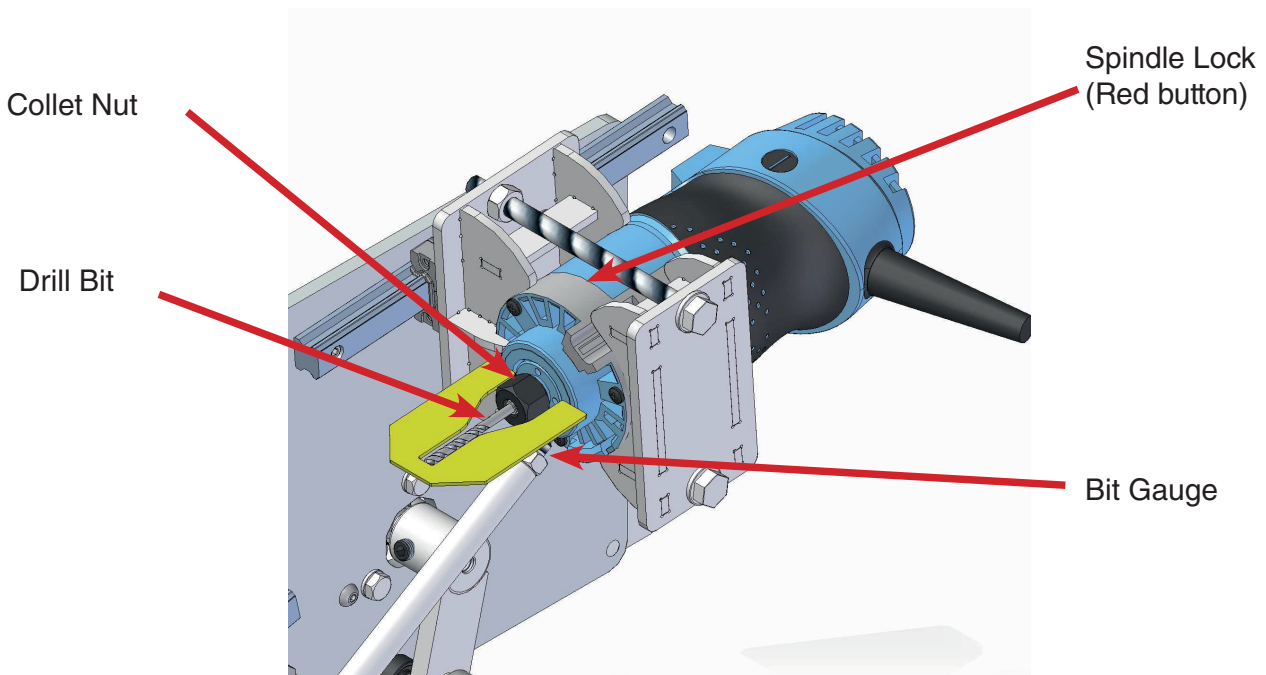

Figure 8: Installing a Drill
4. Using the wrench provided, loosen the collet (by turning nut counterclockwise) (Fig. 8) while holding the (red) spindle lock and remove drill bit
6. Position the Bit Gauge (Fig. 8) against the drill mount (Fig. 8) and pull the drill bit up against the bottom of the Bit Gauge.